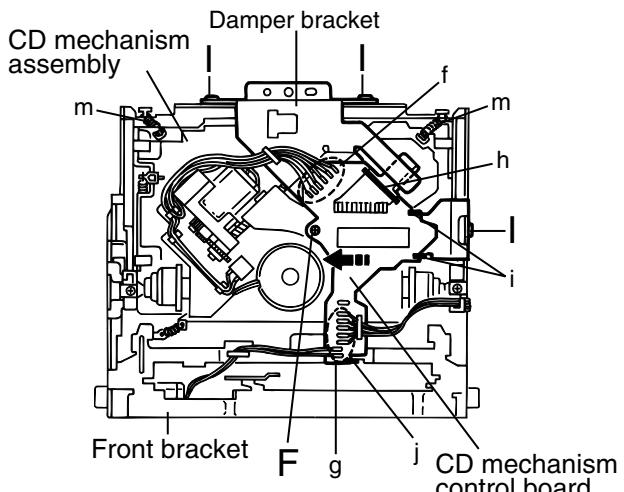

Fig.10
■ Removing the CD mechanism control board(See Fig.10 and 11)
■Removing the CD mechanism ass'y (See Fig.10, 15 to 18)